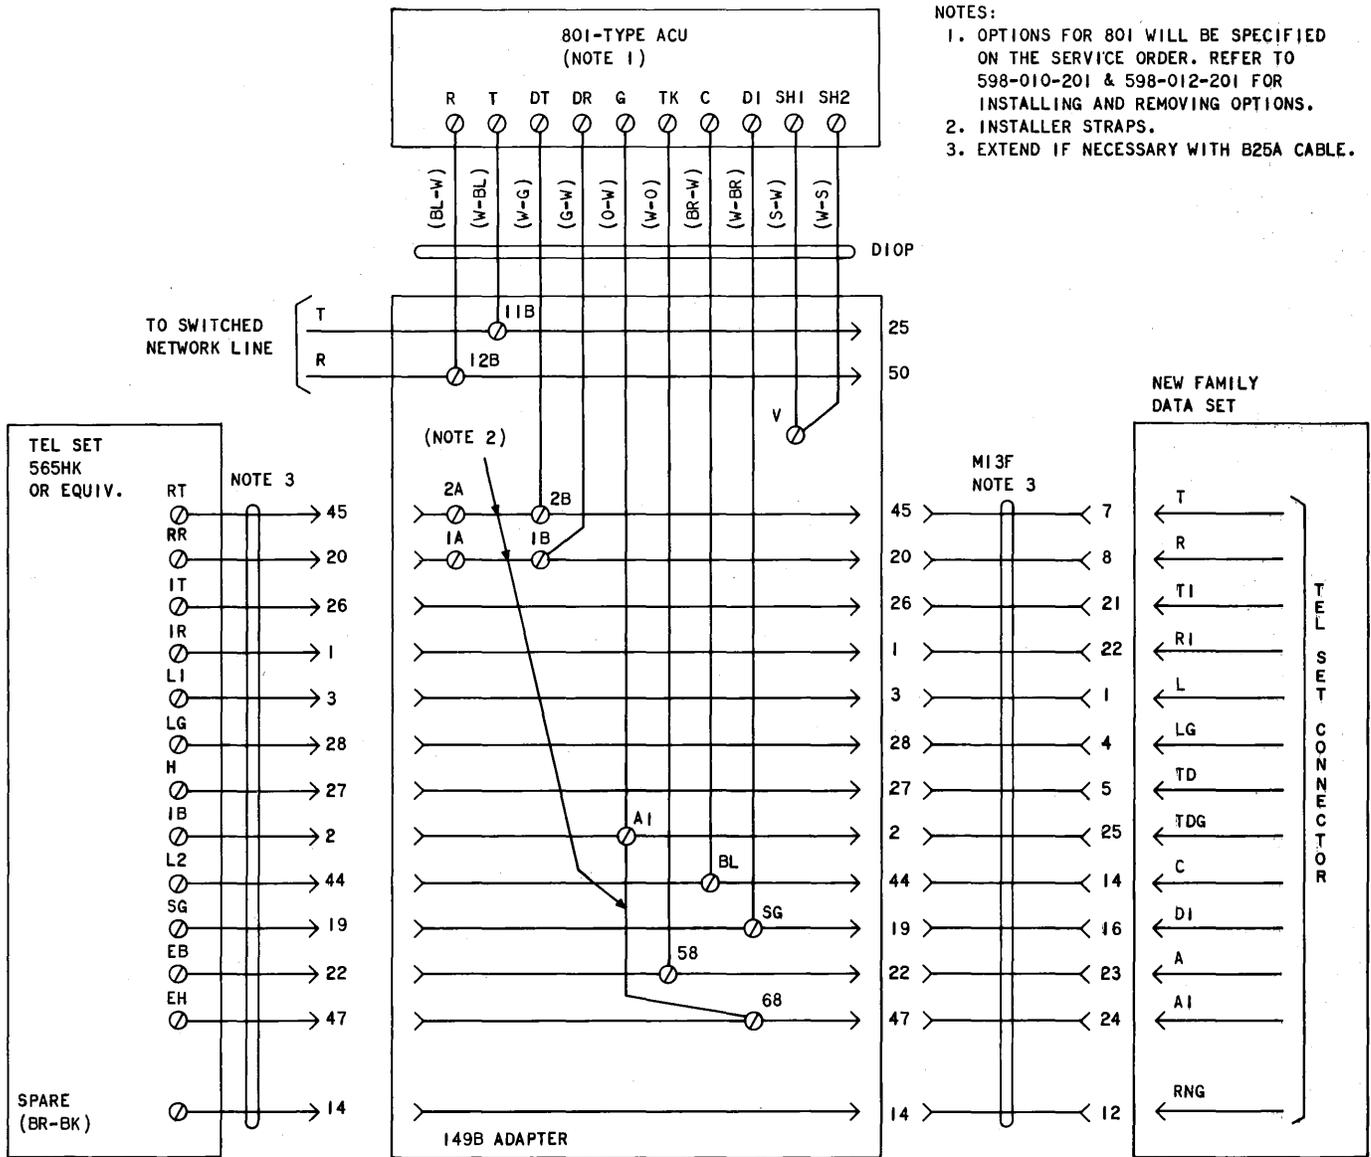

Fig. 9—Single Data Set Connections—2-Wire Switched Network With Automatic Calling Unit
**4.12** Some arrangements [eg, those using an automatic calling unit (ACU)] require access to leads going between the telephone set and DS. Figure 9 shows ACU connections for those arrangements.
**4.22** The 149B adapter can also be used between the KS-21253-L3 adapter and a DS to connect an ACU (Fig. 18). Wiring for the 149B is the same as shown in Fig. 9.